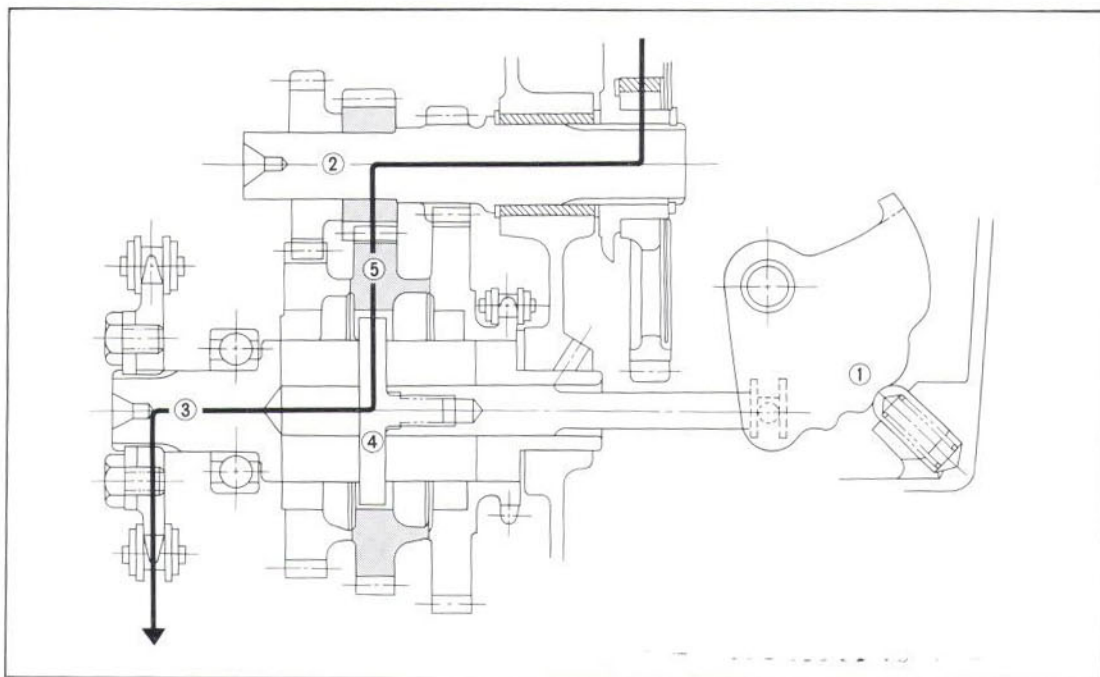

Fig. 3.60 Second gear
The gear shift arm ① is in position shown in Fig. 3.60, the gear change pawl is engaged with the countershaft 2nd gear.